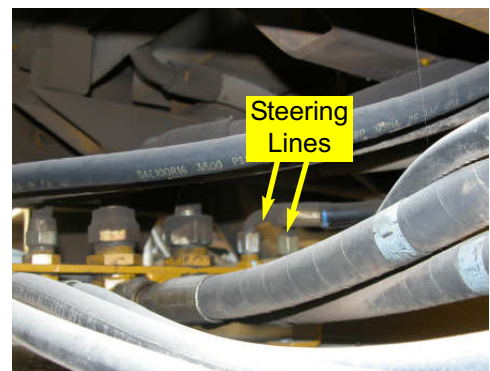

Figure 5a. Steering lines.
- a. Locate the steering lines at the front of the sprayer under the frame where the plumbing is branched. The first two lines from the rear are the steering lines. (Figure 5a.)